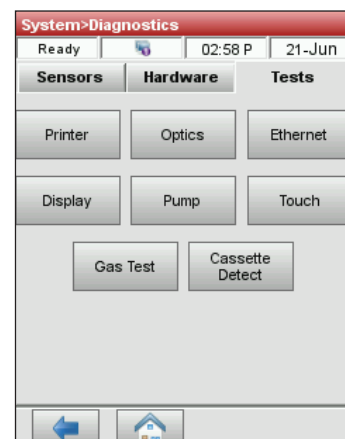

Figure 28. System Manager> Diagnostics> Tests> Pump
- Tap **Pump** (figure 28) to test the pump motor. The pump should rotate smoothly without excessive noise. This diagnostic test automatically steps through all the speeds used during normal operation (7.5–120 rpm) and then returns to the Diagnostics> Tests tab.